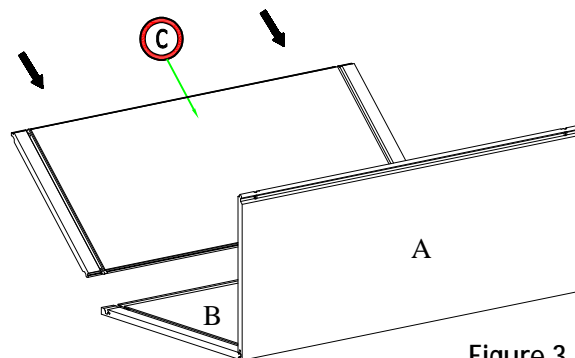

Figure 3
3. Installing the group back panel (C) : Insert the back panel (C) into grooves of side panel (B) . press down until they click into place. (Figure 3)